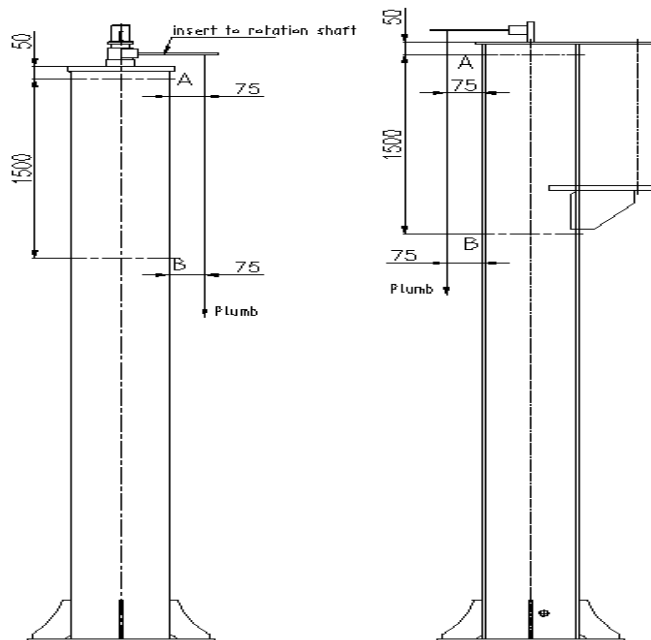

Figure 5-3-2
- c. At the 50mm below the top of the column, the intersection point with the plumb line from the surface of the column 75mm is set to point A. (Figure 5-3-2).